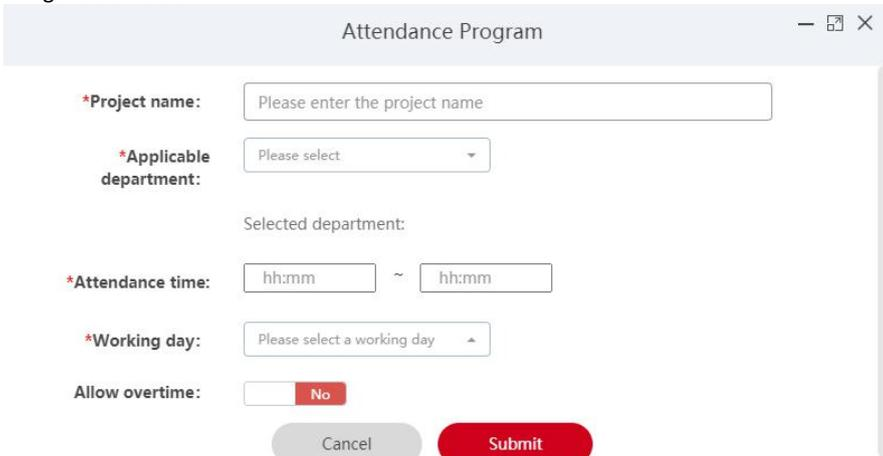

Figure 5-92
Step 2: Click " Add" to set the attendance solution (set solution name, select applicable department, set attendance time, working day and overtime status), as shown in Figure 5-92 below.